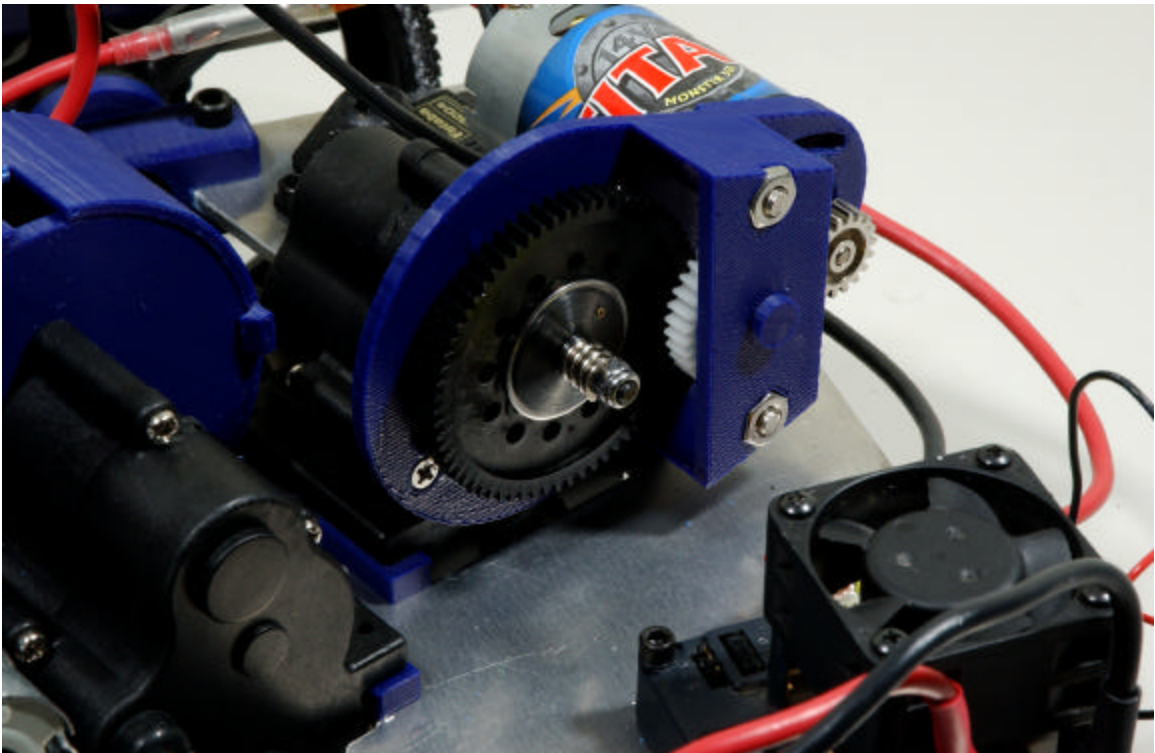
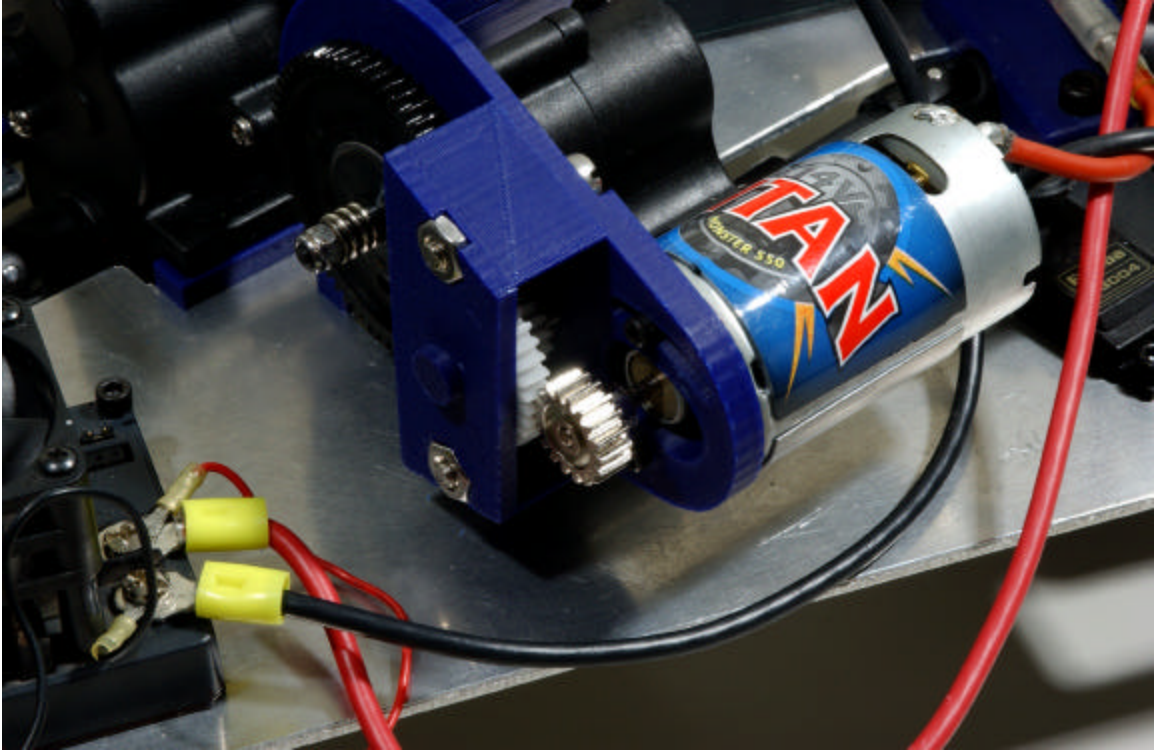

Fig 8.3.1
Fig 8.3.2
- Gear Box (Fig 8.3.1) and (Fig 8.3.2)